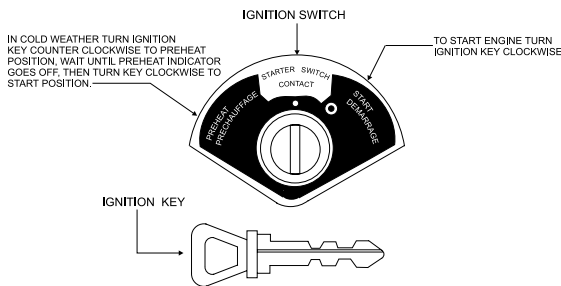

Figure 8. Ignition Switch and Key
- Insert the **ignition key** into the ignition switch (Figure 8).